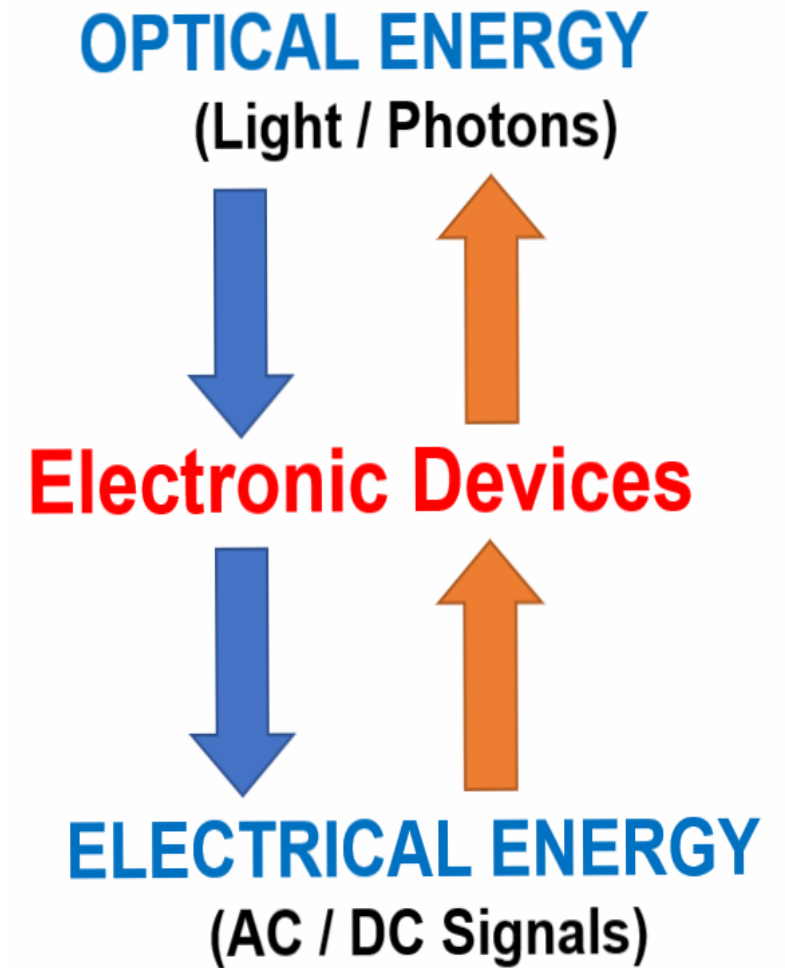

Fig 5.1-1 Energy conversion by using optoelectronics devices
- The basic working process of optoelectronics deals with the optical interaction on the electronic responses in some specific optically active semiconducting (SC) materials.
- The devices which support that type of interaction are known as **TRANSDUCERS**, usually accompanied by energy conversion from optical energy to electrical energy or vice versa, as shown in Fig. 5.1-1.